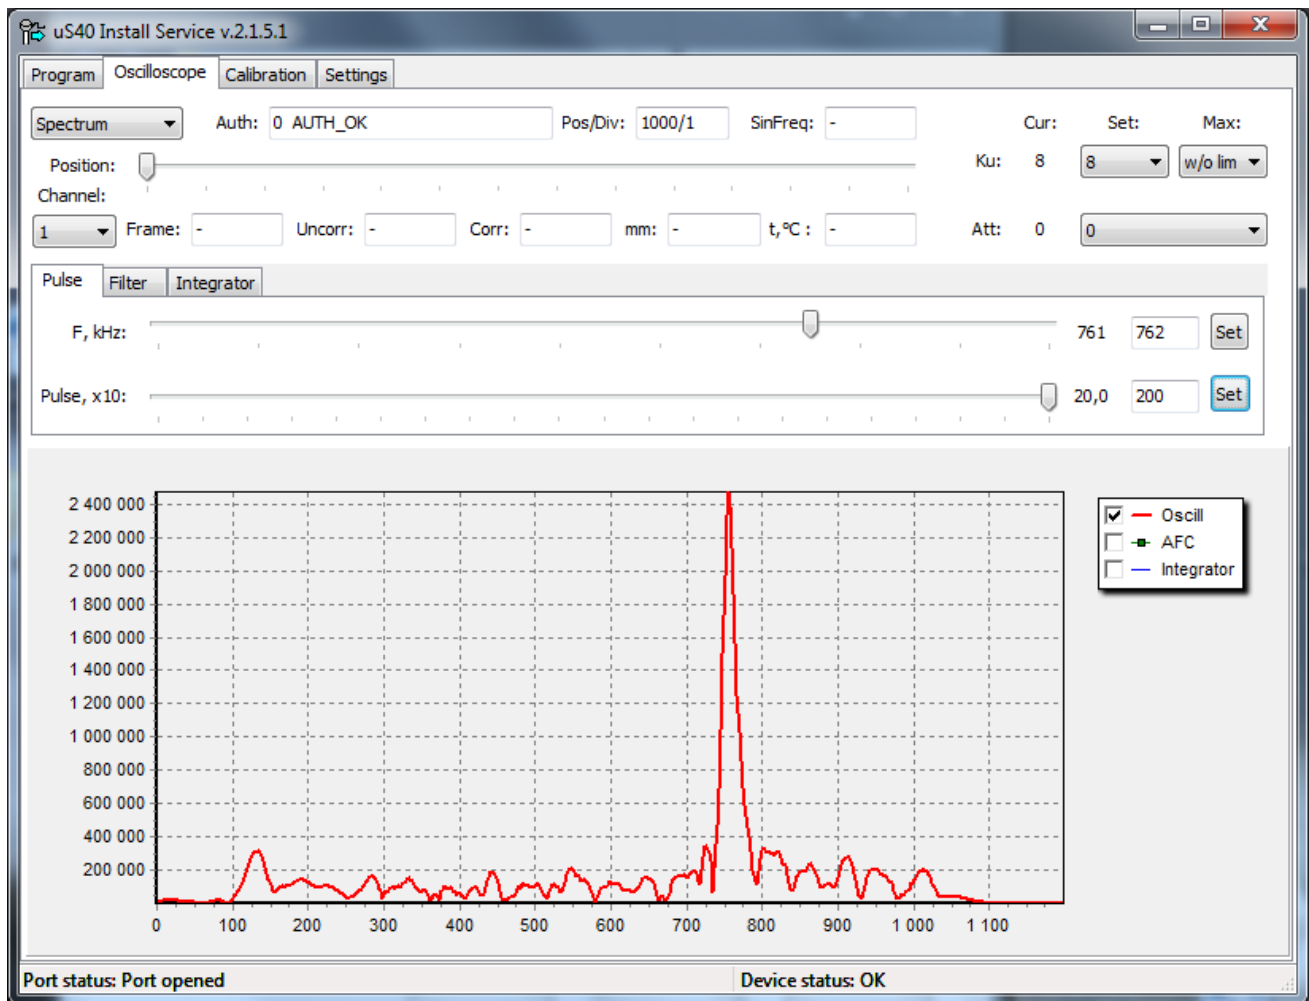

Fig. A.21
f) Go to the “Pulse” tab, in the field “F, kHz” **enter the value of the operating frequency**. Press the “Set” button. In the field “Imp, x10:” enter the value **200**. Press the “Set” button (Fig. A.21).